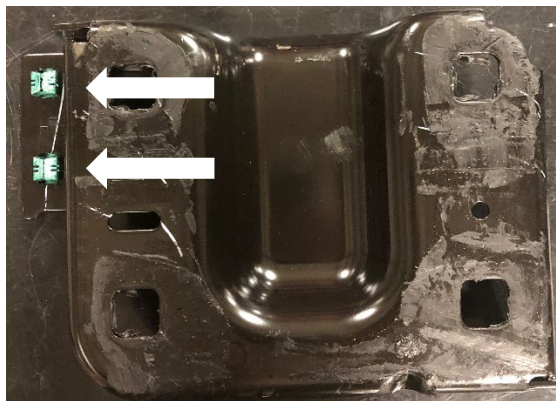

Figure 16
15. Use a pair of pliers to remove the two (2) clip nuts from both mounting plates to use in the bumper install. (Figure 16)